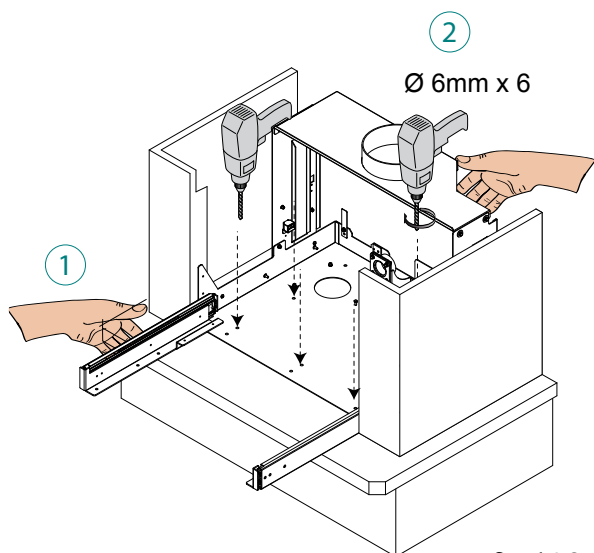

fig. 6.1.8
- 8) Place the load-bearing structure of the insert at the designated point of installation (1), mark and drill 4 \varnothing 6 holes for fastening (2) - use the base of the structure as a template - then drill using a dia. 6 mm drill bit (fig. 6.1.8)